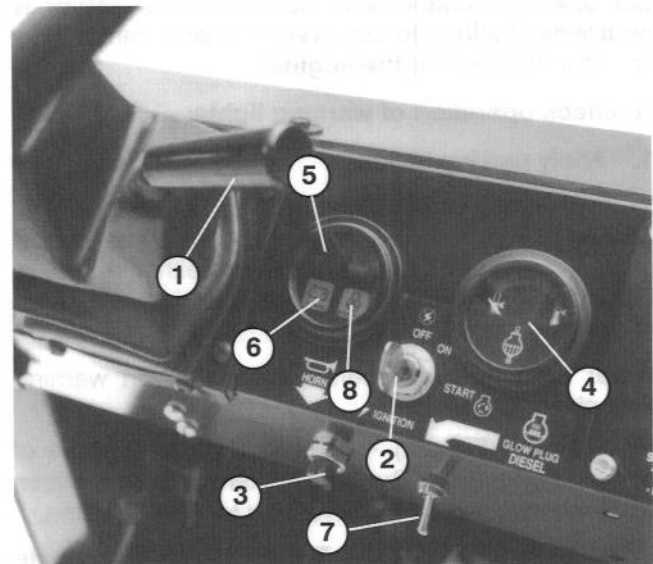

Figure 21
Tilt Steering Lever (Fig. 21) – Lever on right side of console allows steering wheel to be adjusted for operator comfort.
Coolant Temperature Gauge (Fig. 21) – Registers coolant temperature in engine. Operates only when ignition switch is in On position.
Horn Button (Fig. 21) – Pressing button activates horn.
Engine Low Oil Pressure Light (Fig. 21) – Light glows if engine oil pressure drops below a safe level while engine is running. If light flickers or remains ON, stop vehicle, turn off engine and check oil level. If oil level was low, but adding oil does not cause light to go out when engine is restarted, turn engine off immediately and contact your local TORO distributor for assistance.
Charge Indicator (Fig. 21) – Illuminates when battery is being discharged. If light illuminates during operation, stop vehicle, turn Off engine and check for possible causes, such as alternator belt.
Glow Plug Switch and Indicator (Fig. 21) — Use to preheat engine cylinders prior to cold engine starting procedures — cylinders are preheated automatically during warm engine start operation. For cold starting, push switch lever upward and hold while watching indicator. Indicator will glow orange when the glow plugs are activated. Length of time necessary to preheat cylinders should be determined by atmospheric temperature; refer to Starting /Stopping Engine.
Ignition Switch (Fig. 21) — The ignition switch, used to start and stop the engine, has three positions: OFF, ON / Preheat and START. Rotate key clockwise — START position — to engage starter motor. Release key when engine starts. The key will move automatically to the ON position. To shut engine off, rotate key counterclockwise to OFF position.
5. When temperature is below 15°C (60°F), push glow plug switch upward to ON position (Fig. 21) and hold for suggested interval.